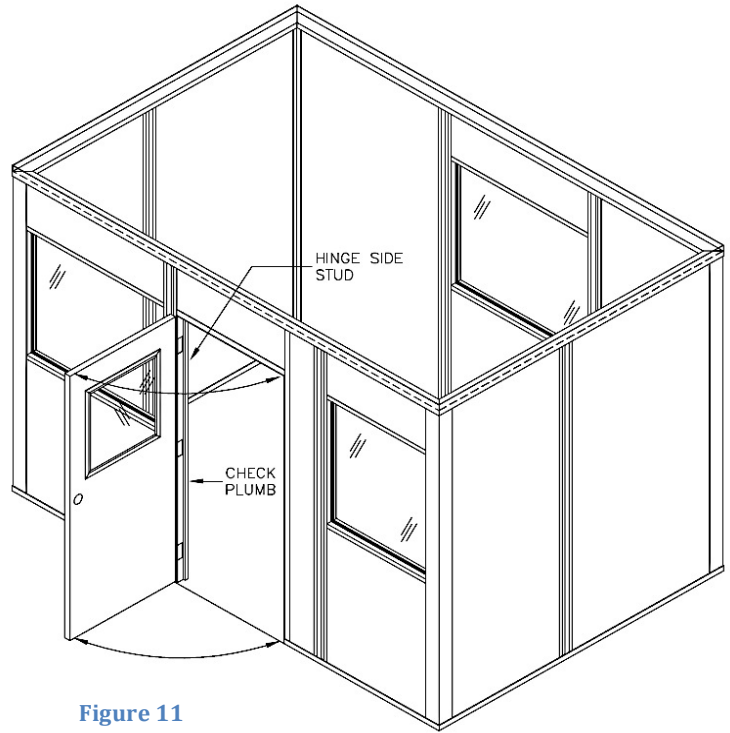

Figure 11
Step 1: Hang the door to the hinge side stud shown in Figure 11. Using your level, make sure this stud is plumb and verify that the door swings freely over the floor.